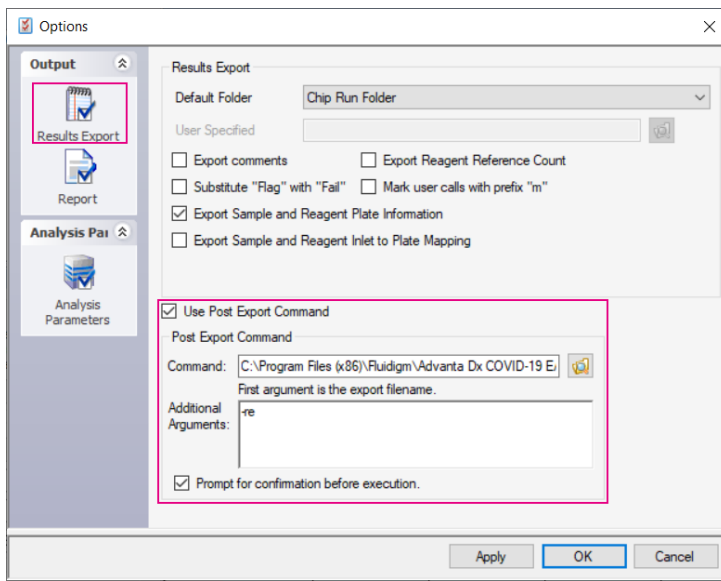

Figure 15. Results Export options
- 2 Click **Results Export** in the **Output** section (Figure 15 on page 30).